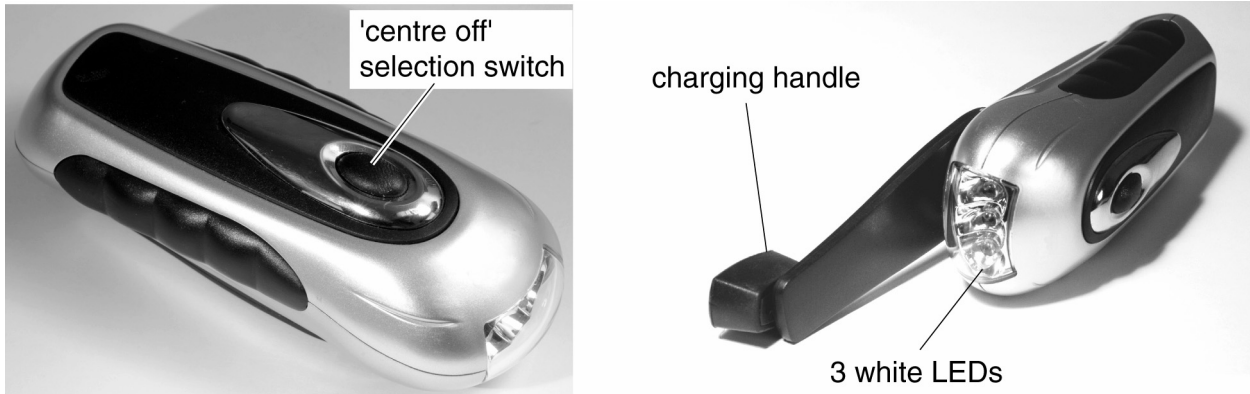

Fig. 1
- 1 Fig. 1 shows two views of a wind-up torch. The torch battery is charged when the charging handle is turned for a short time. Either the centre LED or all three LEDs together can be switched on.